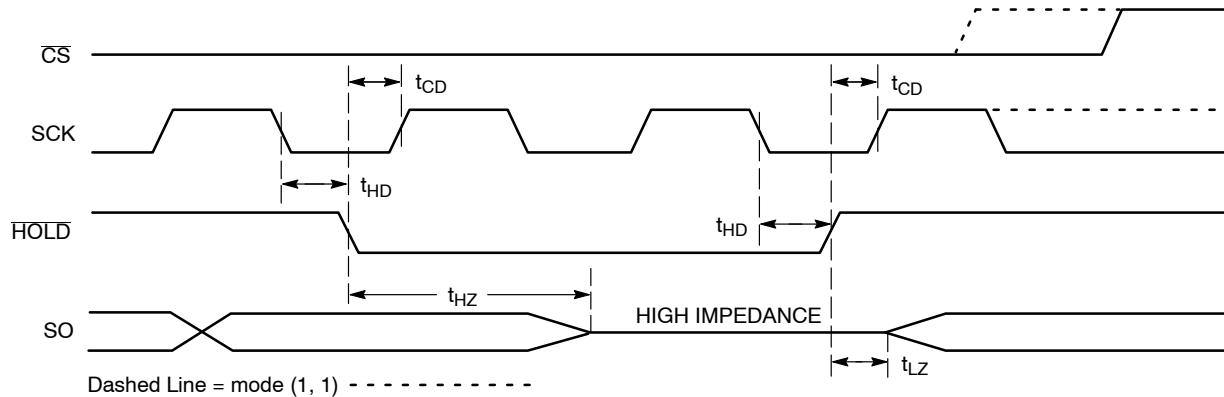

Figure 11. HOLD Timing
The HOLD input can be used to pause communication between host and CAV25010/20/40. To pause, HOLD must be taken low while SCK is low (Figure 11). During the hold condition the device must remain selected (CS low). During the pause, the data output pin (SO) is tri-stated (high impedance) and SI transitions are ignored. To resume communication, HOLD must be taken high while SCK is low.